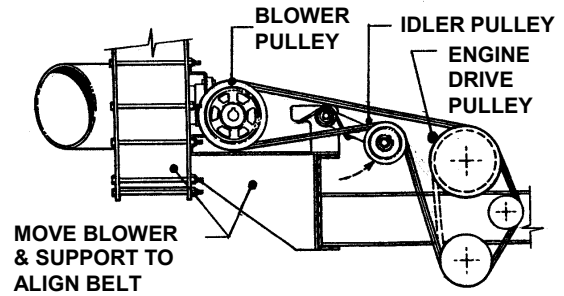

FIGURE 1.8
6. Install belt onto idler and blower pulleys as shown in Figure 1.8. Align idler pulley, blower pulley, and engine drive pulley using belt.